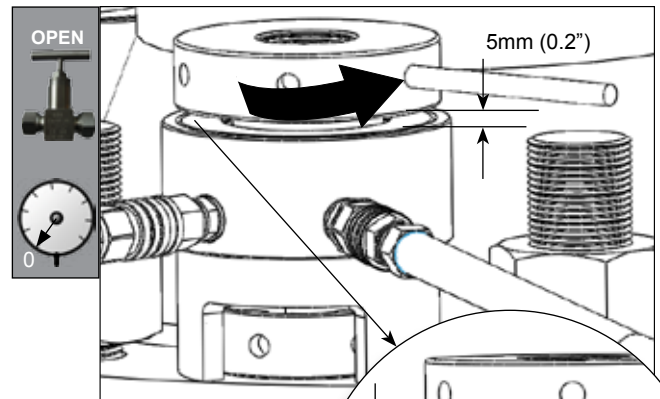

fig 8.1
2. Before commencing pressurisation, back off all of the thread inserts by 5mm (0.2") see fig 8.1. (Ensure there is still enough thread engagement between the thread inserts and the bolt thread protrusions.
9. Before commencing pressurisation off the final 50% of bolts, back off all of the thread inserts by 5mm (0.2") see fig 8.1. (Ensure there is still enough thread engagement between the thread inserts and the bolt thread protrusions.